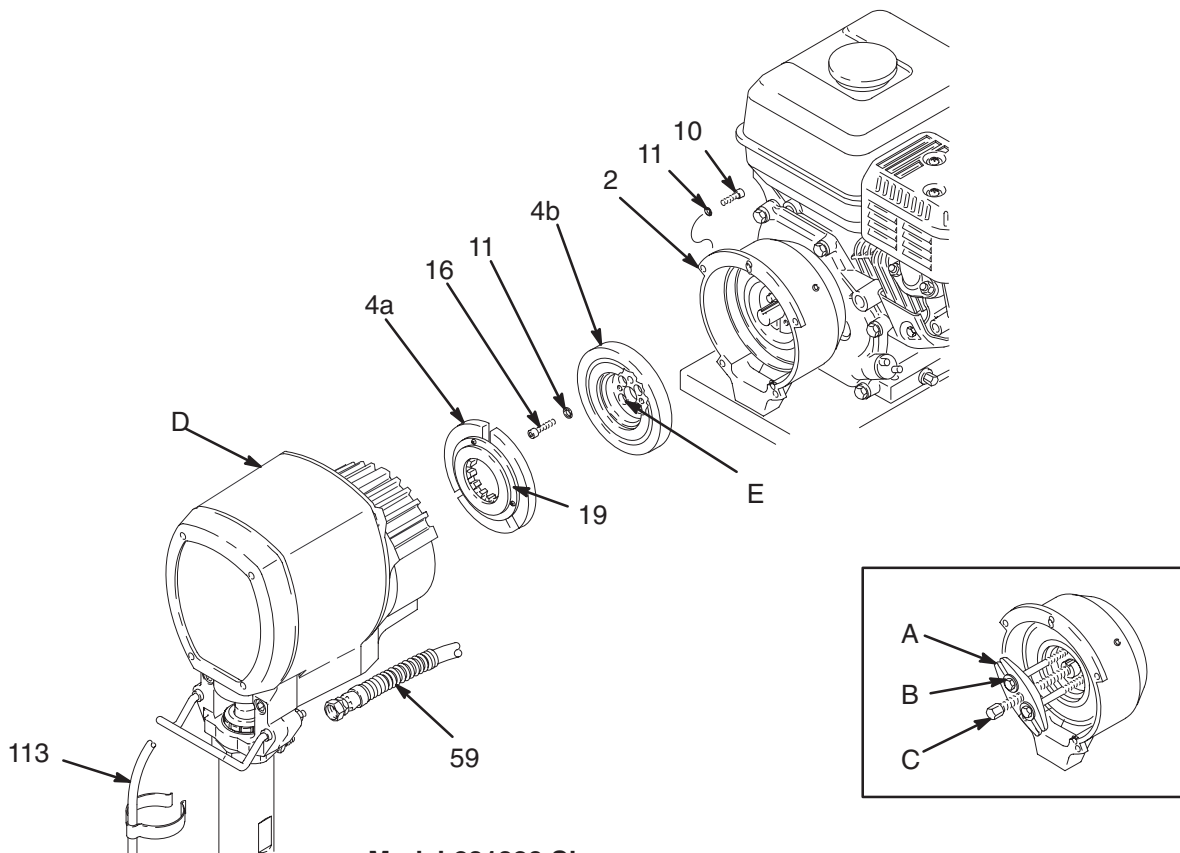

Fig. 12
NOTE: Refer to Fig. 12 for this procedure.
2. Disconnect the hose (59) from the displacement pump. Remove the spring clips and drain hose (113) from the displacement pump.
3. Remove the two bottom screws (10) and lockwashers (11) first, then remove the two side screws (10) and lockwashers (11), and last remove the top screw (10) and lockwasher (11).
4. Tap lightly on the back of the bearing housing (21) with a plastic mallet to loosen the assembly (D) from the clutch housing. Pull the assembly away.
- a. Remove the four socket head capscrews (16) and lockwashers (11). Install two of the screws in the threaded holes (E) in the rotor. Alternately tighten the screws until the rotor comes off. See Fig. 12. If the rotor is difficult to remove, use procedure b.
- b. You can use a standard steering wheel puller (A). However, two 1/4-22- x 3 or 4 in. long screws (B) are also needed. Replace the short screws of the steering wheel puller with the longer screws (B). Turn the screws (B) into the threaded holes (E) of the rotor (4b). Tighten the capscrew (C) of the tool until the rotor comes off. See the Detail in Fig. 12.